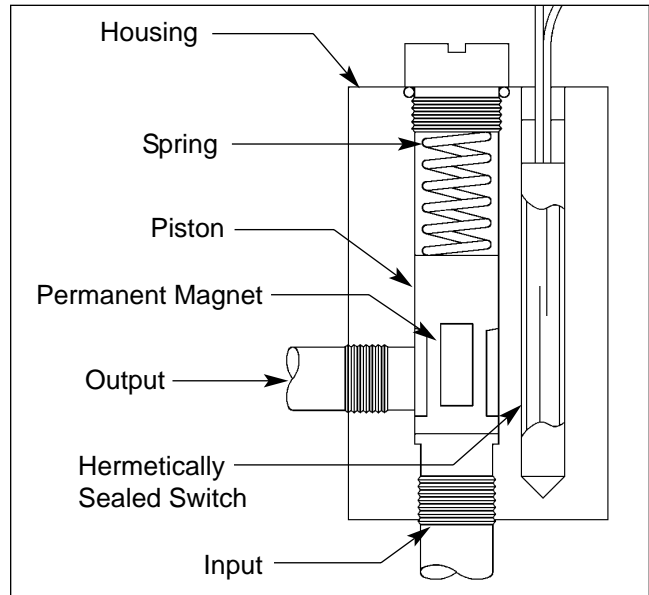

Figure 5D. Flow switch.
2. Disconnect the two (2) flow switch leads from the press electrical system. These connections are usually made inside an adjacent conduit box.
4. Attach the two (2) flow switch leads to a continuity meter. Then, working through the input port, push the piston up through its normal range of travel. (See Figure 5D.)